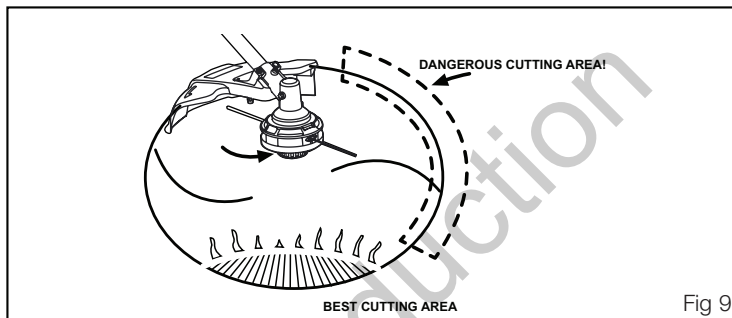

Fig 9
NOTE: Refer to Fig. 9.
- Keep the trimmer tilted toward the area being cut; this is the best cutting area. Fig.9
- The trimmer cuts best when passing from right to left. This will avoid throwing debris at the operator. Avoid cutting in the danger area shown in figure 9.